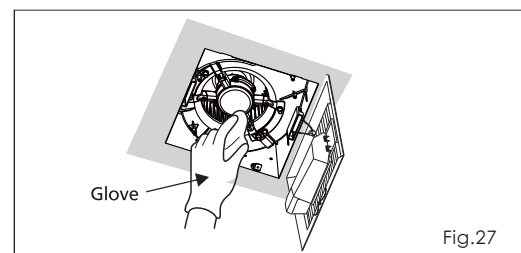

Fig.27
4. Using a cloth dampened with kitchen detergent, remove any dirt from fan body. Wipe dry with clean cloth. (Fig.27)